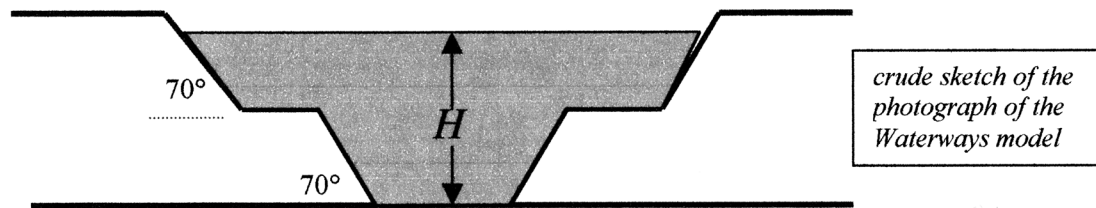

Fig. C10.5
**C10.5** Figure C10.5 shows a hydraulic model of a *compound weir*, that is, one which combines two different shapes. (a) Other than measurement, for which it might be useful, what could be the engineering reason for such a weir? (b) For the prototype river, assume that both sections have sides at a  $70^\circ$  angle to the vertical, with the bottom section having a base width of 2 m and the upper section having a base width of 4.5 m, including the cut-out portion. The heights of lower and upper horizontal sections are 1 m and 2 m, respectively. Use engineering estimates and make a plot of upstream water depth versus Petaluma River flow rate in the range 0 to  $4 \text{ m}^3/\text{s}$ . (c) For what river flow rate will the water overflow the top of the dam?